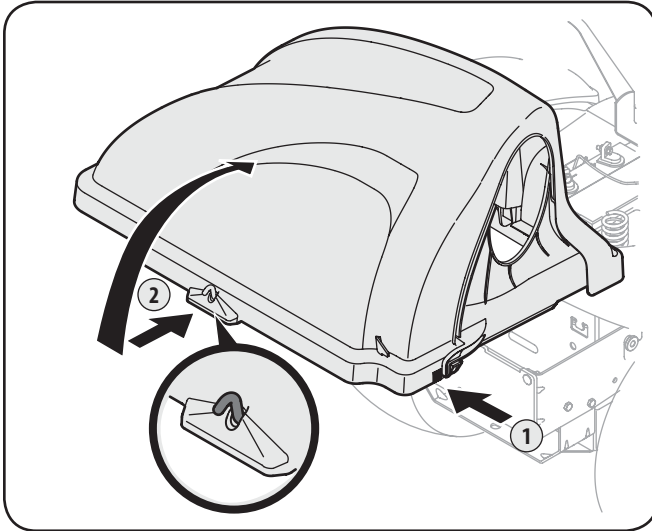

Figure 4-17
- Open Hood by pushing in on the rear, right-side tab with your right hand, as seen in 1 of Fig. 4-17, and lifting the cover with your left hand in the center rear of the bagger cover, 2.